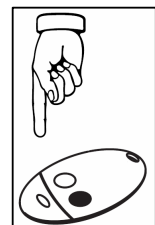

FIG. 14
5. The display will show **"Desired button"**. Press the button you want to activate the gate with as shown in Fig. 14.